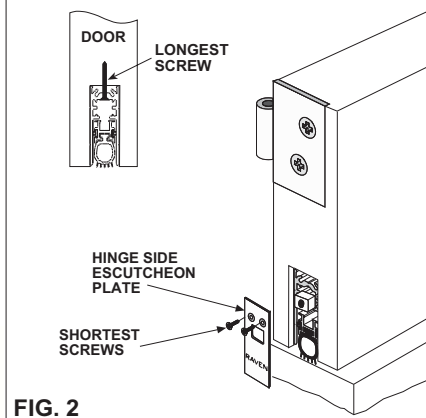
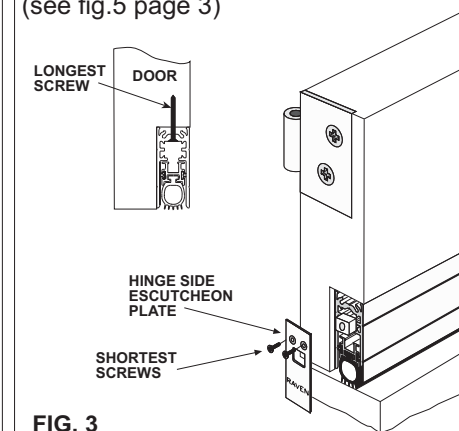

FIG. 2
FIG. 3
To allow for operating clearance, file the cut end of the inner extrusion 1mm shorter. Trim gasket. (FIG.2)
- (2) Position the **base assembly** only, on the bottom of the door with **adjustment block** hard against the **hinge side stop**. Drill **2mm** diameter holes through the base assembly into the door at a 45 degree angle every 200mm. NB. Chock base assembly level with door bottom while drilling, to prevent the base assembly moving or holes moving out of alignment.(FIG.2)
- (3) Remove the base assembly from the door and re-drill the base assembly holes to **4.0mm diameter**. This allows clearance for the screw thread.
- (4) Re-position the **base assembly** on the door and screw into position using the **longest** screws supplied.(FIG.3)
- (5) Fit on the **cover strip** by hooking the front leg into position. Then with a rubber mallet, lightly tap the top of coverstrip to snap in rear leg. (FIG 3.)
- (2) **Machine groove** the bottom of the door(s) **20mm x 50mm**. (FIG 2 & 3)
- (4) Position base assembly on door bottom with **adjustment block** on **hinge side** of door. (FIG 2 & 3)
- (6) Break or cut the hinge side escutcheon plate (ie. the one with the square hole in it.) along the stamped lines to suit end profile. (FIG 2 & 3) File along break or
cut to achieve a smooth finish and remove any sharp edges. Position escutcheon plate on the base assembly and screwfix, using the **shortest** screws supplied. (FIG 2 & 3)